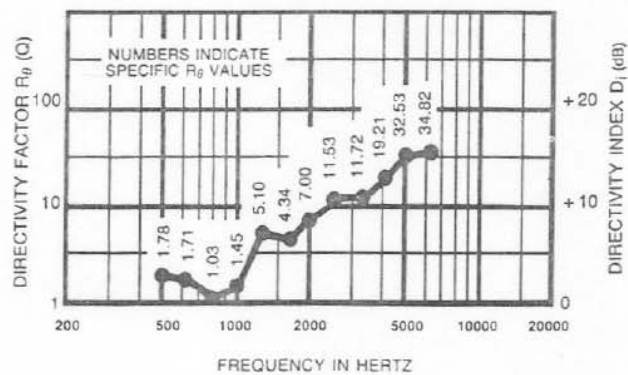

FIGURE 3
7.0 @ 2 kHz (see Figure 3)
Figure 3 shows the directivity factor of the 2WP. It was measured at a distance of 1 meter, using a swept sine wave.